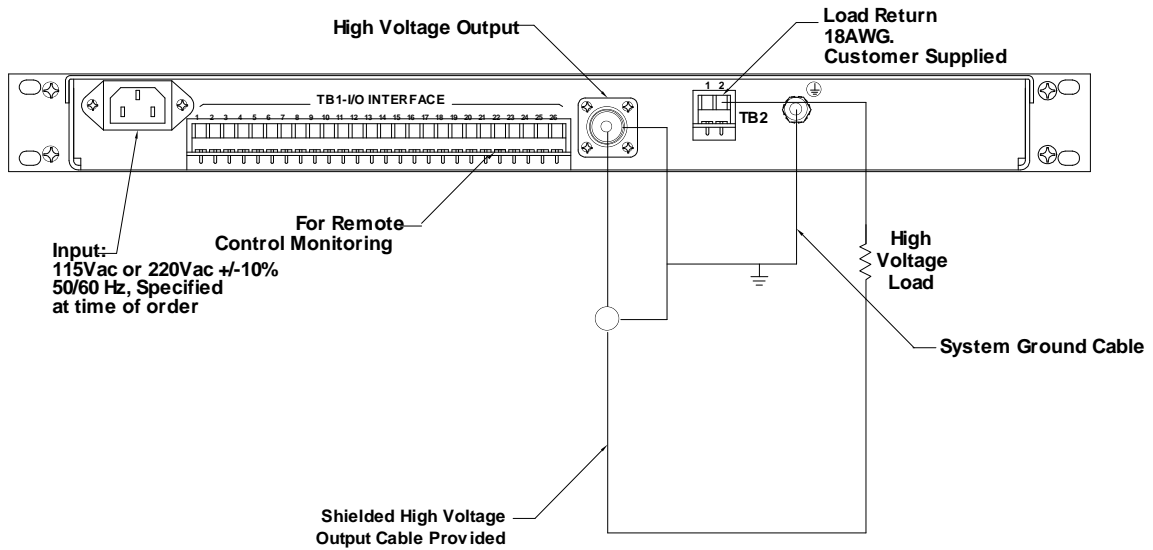

Figure 3.1 -- Typical Operating Setup
- A) Insure that the Circuit Breaker is in the OFF position (0).
- C) **PROPER GROUNDING TECHNIQUES:** The chassis of high voltage power supplies must be grounded, preferably to a water system ground using copper pipe or other earth ground using the ground stud B1 at the rear of the unit. See Figure 3.1 for a typical operating set-up.